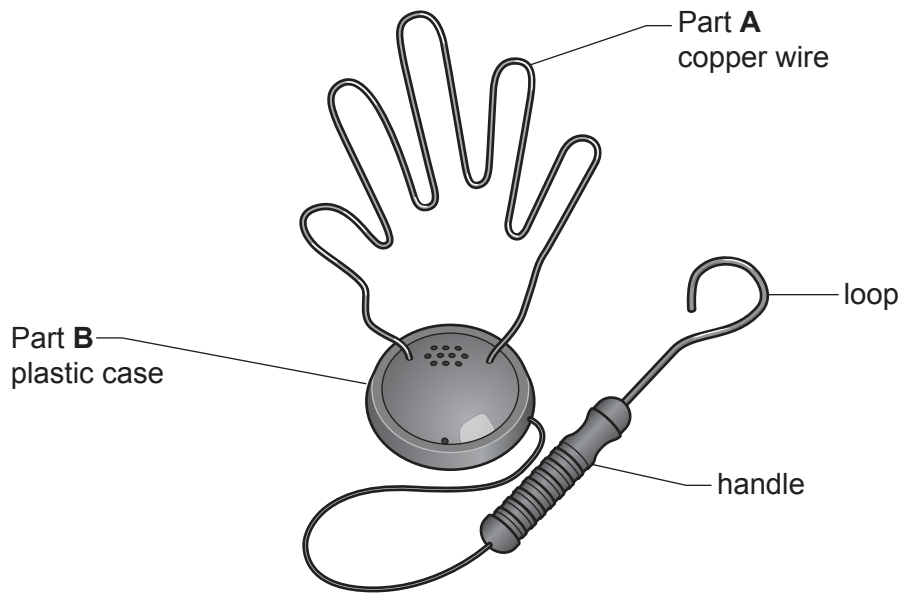

Fig. 3.1
- 3 Fig. 3.1 gives details of a battery operated steady hand game which is to be made in a school workshop. A buzzer sounds if the loop on the handle touches Part A.